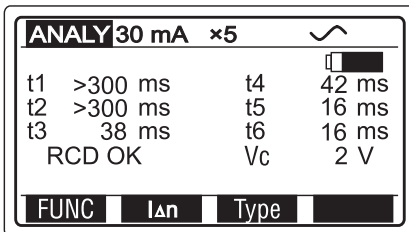

Figure 60: RCD Analysis Menu, Test Sequence 6
- ▶ The measurement results are displayed after successful performance of all six test sequences, please refer to Figure 60.